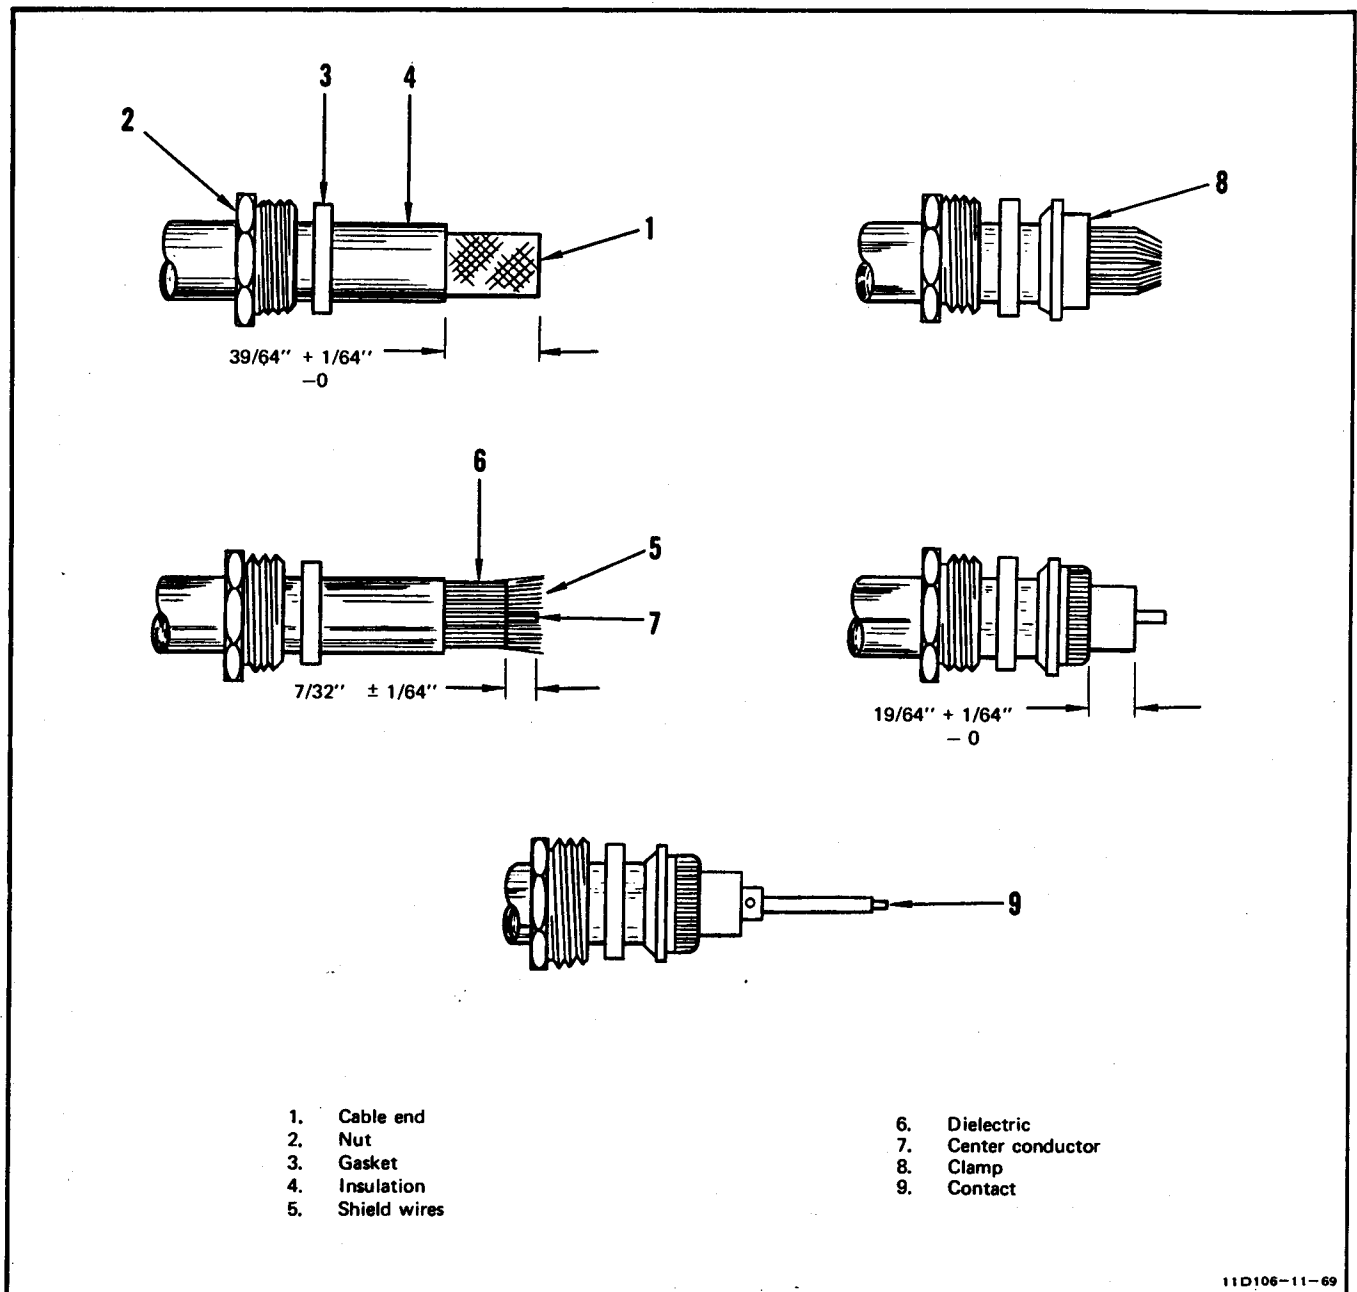

Figure 11-51. HN Series Coaxial Connectors - Improved Contact Repair
**11-129. Contact Repair. (See figure 11-51.)****NOTE**